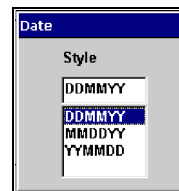

Figure 5-85 Sample Date dialog box
2. Press **Y/✓** to open a drop-down list of display options (Figure 5-85).